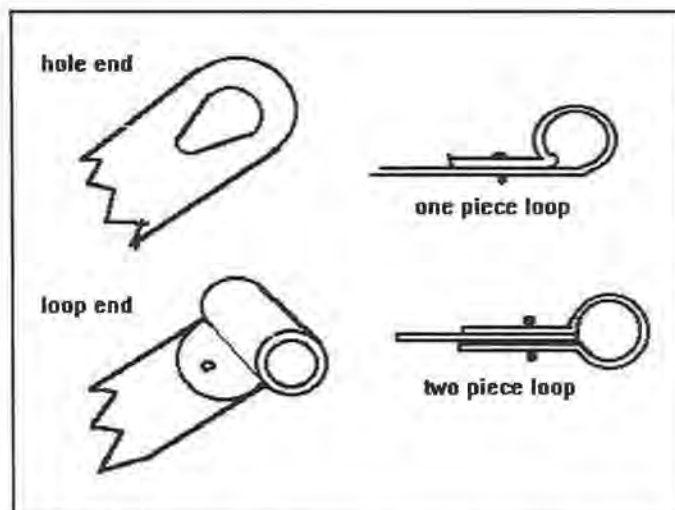

Figure 8. Hole-end and loop-end mainsprings.
The two principle types of mainspring ends for clocks are shown in Figure 8. These are the "hole end" or "loop end." The loop end has two sub varieties: single-piece or two-piece. Making an end on a spring is a reasonable task in the shop either for the purpose of repair or for changing from one type of end to the other.
7. Backfile the 1/4" hole to form a teardrop shape 1/2" long. (See Figure 8 - hole end.)
An alternative to forming the hole is to save the loop ends from two-piece hole-end springs and simply transfer them. (See Figure 8.)